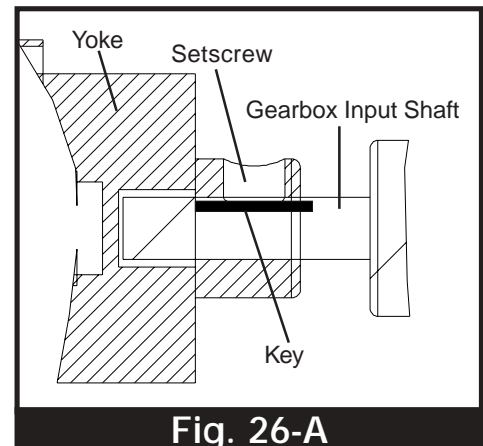

Fig. 26-A
1. Place the 1/4" x 1-1/2" long square drive key into the keyway on the gearbox input shaft. Attach the PTO shaft by tightening the setscrews in the PTO driveline yoke. (See Fig. 26-A)
2. Remove two (2) 3/8" x 1" grade 5 hex head capscrews that connect the mounting ear to the drive housing.
3. Place input shield over PTO driveline and fasten to drive housing using two (2) 3/8" x 1" (grade 5) hex head capscrews and nylon lockwashers. (See Fig. 26)
4. Place the PTO driveline support 46" up the auger housing from the center of the gearbox and attach it to the auger using a half-band and two (2) 5/16" x 1-1/2" long (grade 5) hex head capscrews and nylon locknuts. Position the PTO driveline support to the auger so that the PTO driveline is parallel with the drive shaft cover.
1. Slide front of motor mount frame to drive housing flange and fasten together using three (3) 3/8" x 1-1/2" hex head capscrews (grade 5) hex head capscrews and nylon lock nuts.
2. Attach the back motor mount frame to the auger housing by fastening together the half band on the motor mount frame with the bottom heavy duty half-band using six (6) 5/16" x 1-1/2" hex head capscrews (grade 5) hex head capscrews and nylon lock nuts. (See Fig. 26-B)
3. Bolt belt guard bracket to the drive housing flange with two (2) 3/8" x 1-1/2" (grade 5) hex head cap screws and nylon locknuts.
4. Attach the belt guard bracket to the belt guard with two (2) 5/16" x 3/4" bolts, lockwashers, flatwashers and nuts.
5. Secure the belt guard to the motor mount frame using four (4) 5/16" x 1" (grade 5) hex head capscrews, flat washers, and nylon locknuts.